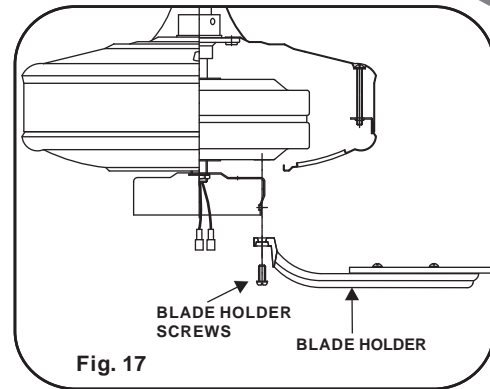

Fig. 17
Step 2. Rotate the motor so that the screw holes in motor are aligned with the holes in blade holder and secure with proper screws. Repeat process for the other blade holders. (Fig. 17)